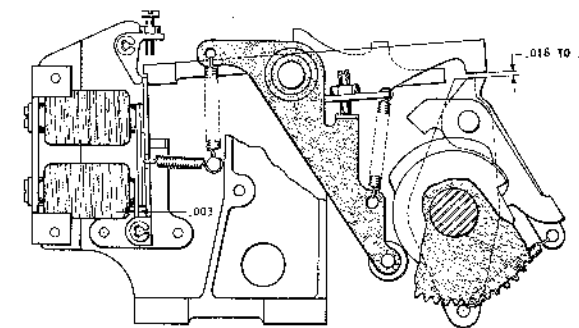

Figure 29. Clutch Unlatching Clearance
2. Turn the machine to the low dwell on the clutch cam. Trip the clutch and set the adjusting screw for .018" to .030" unlatching clearance (Figure 29).